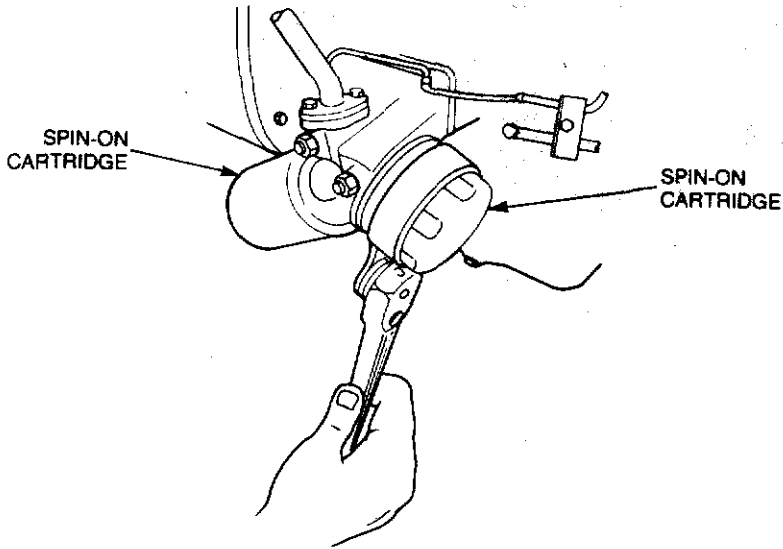

Figure 3-6 Oil filter removal
**323.** Unscrew each oil filter cartridge counter-clockwise, using a suitable oil filter removing tool if necessary (see Fig. 3-6). Apply a film of clean engine oil on the rubber seal of each new filter cartridge and install each filter. After the filter seal contacts the adapter, tighten the filter a further half a turn by hand only.